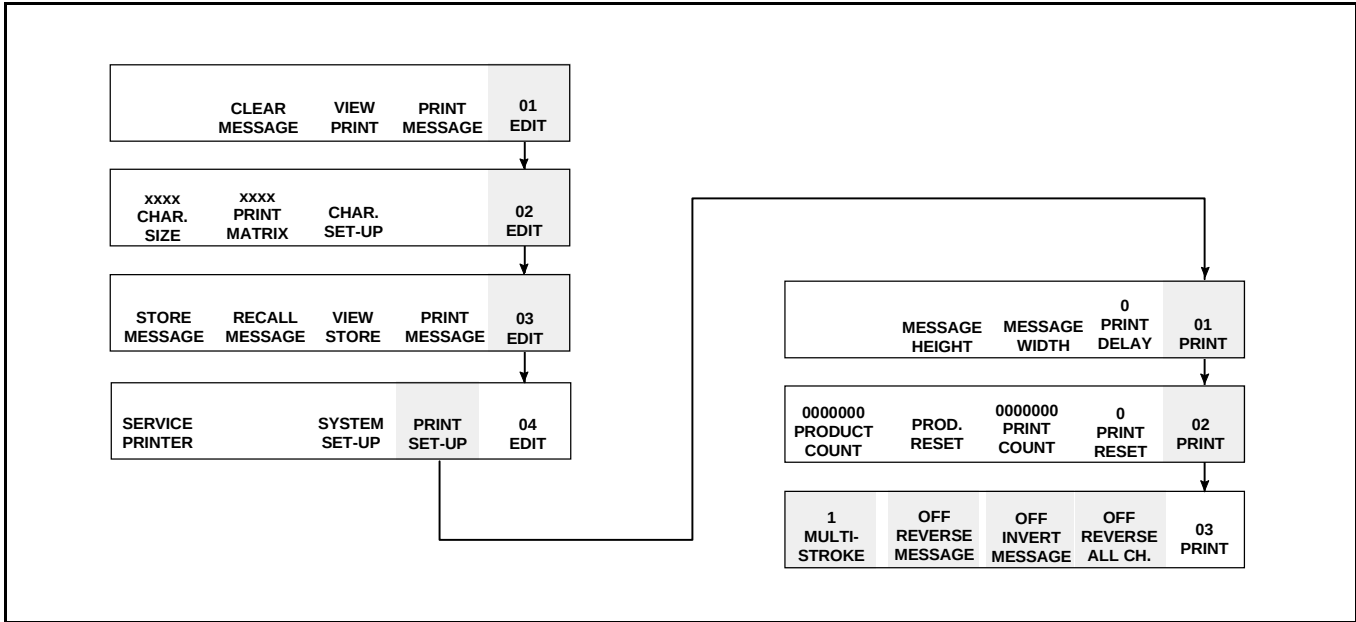

Figure 6-10. Accessing Frame <03 PRINT>
Refer to Figure 6-10 for an illustration of the frames used in this section.
2. Begin in Frame <03 PRINT>. Refer to Figure 6-10 on page 6-16.
1. Begin in Frame <03 PRINT>. Refer to Figure 6-10 on page 6-16 for information on accessing Frame <03 PRINT>.